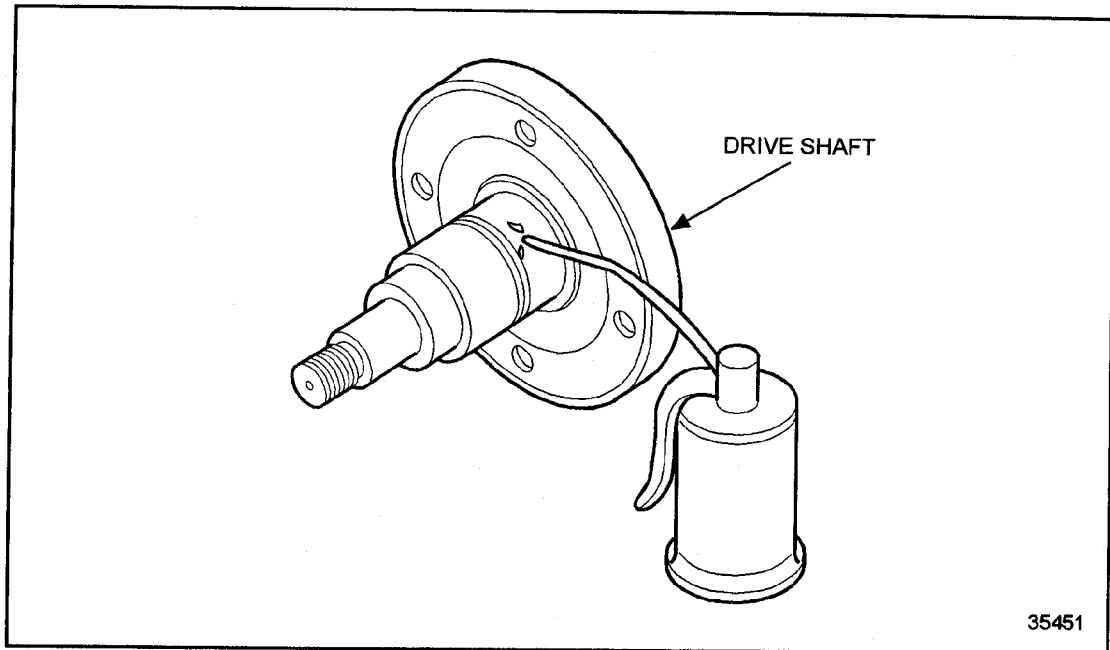

Figure 10-30 Bearing Inner Race Lubrication
9. Lubricate the roller bearing inner race with clean engine oil. See Figure 10-30.